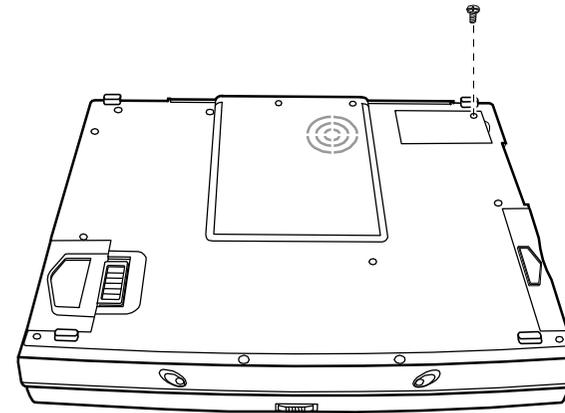

Figure 5-17. Removing the Modem Card Compartment Cover
2. Remove one screw and open the Modem card compartment cover. (Refer to Figure 5-17)
2. Replace the compartment cover and secure with one screw. (Refer to Figure 5-17 earlier.)